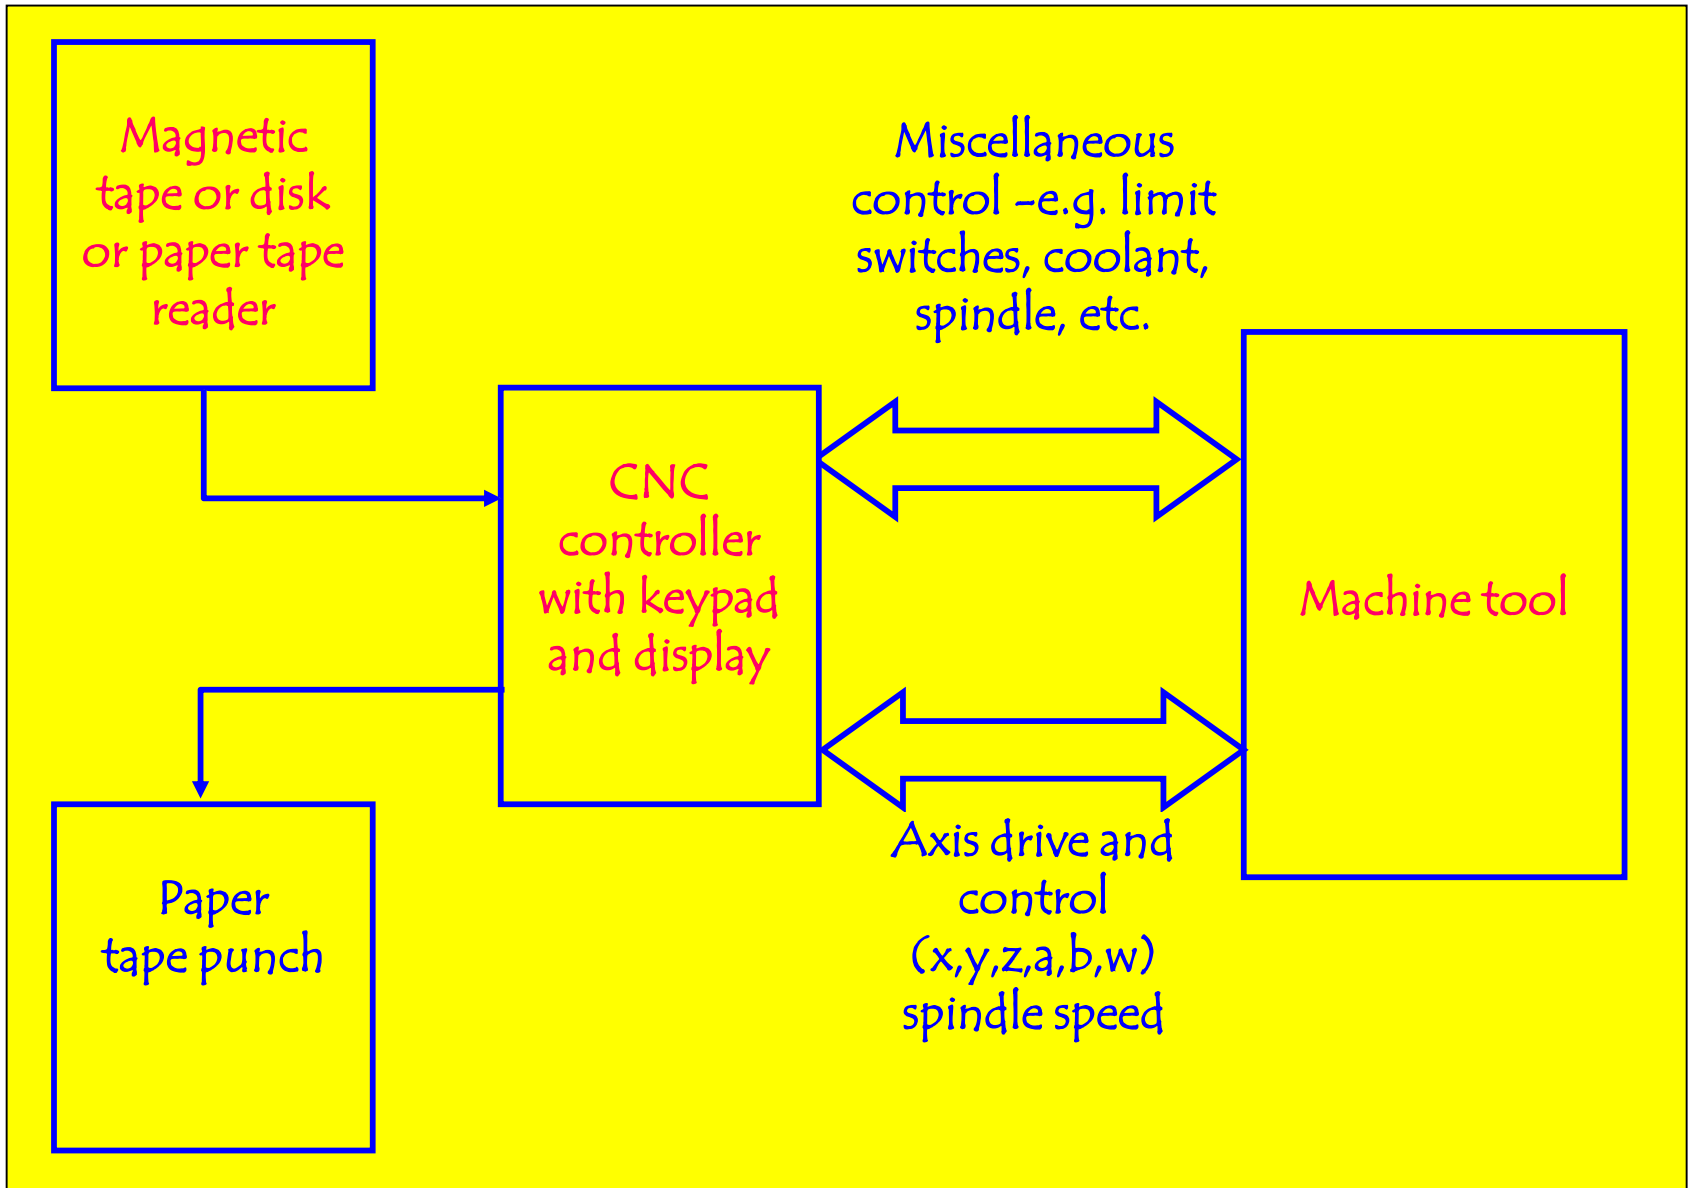

Figure 3: The general configuration of CNC machine tools.
- **CNC machine tools:** In a CNC machine tool, a computer is joined to the NC machine to make it versatile. Information can be stored in a memory unit and, therefore, a part program needs to be loaded into the MCU only once. Some CNC machines have display monitors to facilitate visual editing of part programs by the operator and provide diagnostic analysis. More sophisticated machines can also display the tool path for graphical verifications. Figure 3 illustrates the general configuration of CNC.